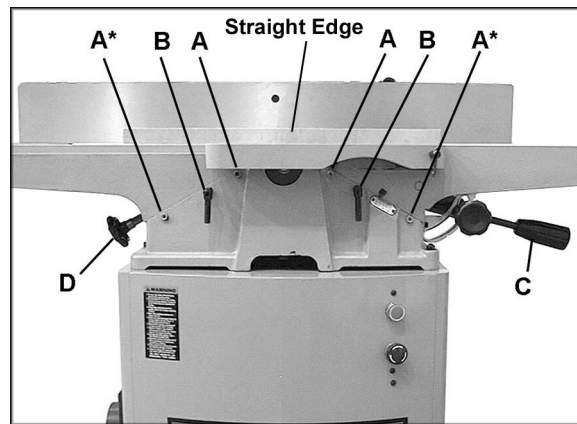

Figure 18
1. Loosen hex nuts on the gib screws (A, Figure 18) with a 12mm wrench, then loosen the gib screws with a 4mm hex wrench. Loosen the table lock handle (B, Figure 18).
2. Remove lower hex nut and gib screw (A*, Figure 18) and check screw hole to make sure that punch mark in the gib is aligned with the screw hole. If punch mark is not visible, or it does not line up with screw hole, use a screwdriver to lightly tap the gib back into alignment.
3. Replace the lower gib screw (A*, Figure 18) but do not tighten.
4. Carefully tighten the table lock screw (B, Figure 18). The table will begin to move toward the straight edge.
5. When aligned, re-set the gib screws (A, Figure 18) until tight. If table does not align with straight edge, use the adjusting arm (C, Figure 18) for the infeed table, or handwheel (D, Figure 18) for the outfeed table, until the table is flush with the straight edge.
6. Tighten the gib screws (A, Figure 18) then back them off approximately 1/4 turn or until the table moves freely, and re-set the lock nuts on the gib screws.